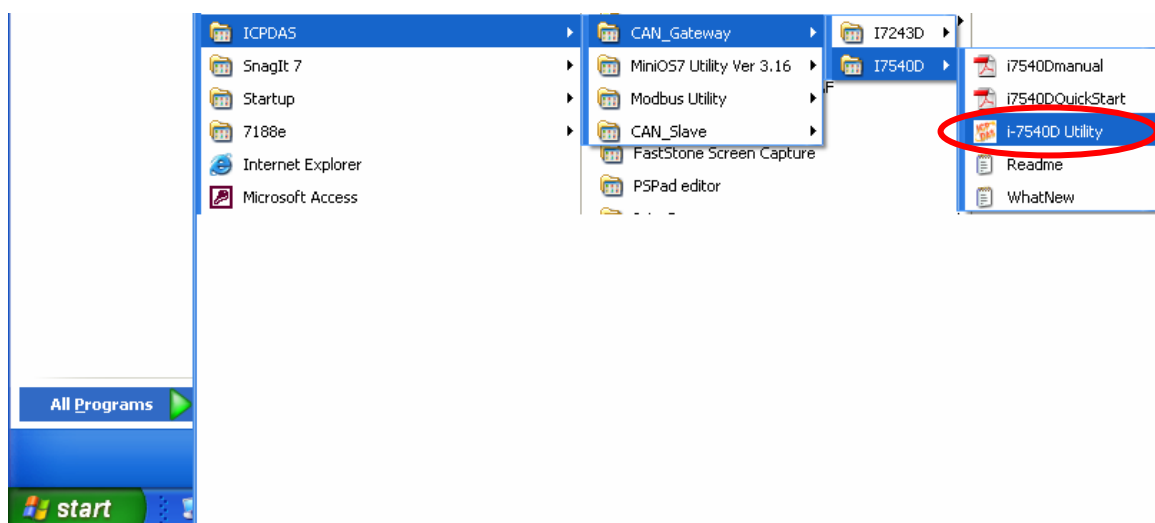

Figure 3-6: You can find “I-7540D Utility“ at the “Start” in the task bar
Step 7: After finishing the installation of the I-7540D Utility, users can find it as shown in figure 3-6.